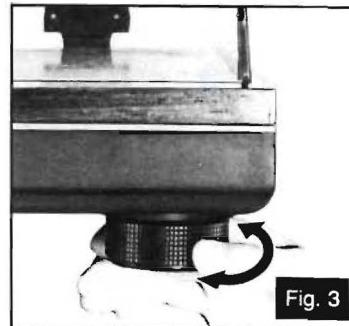

Fig. 3
- 3) The legs/insulators also have functions for adjusting the height of the turntable unit itself. After installing the unit in the place for use, adjust them to stabilize the main body horizontally. (See Fig. 3.)